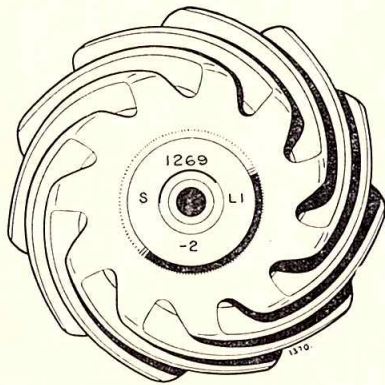
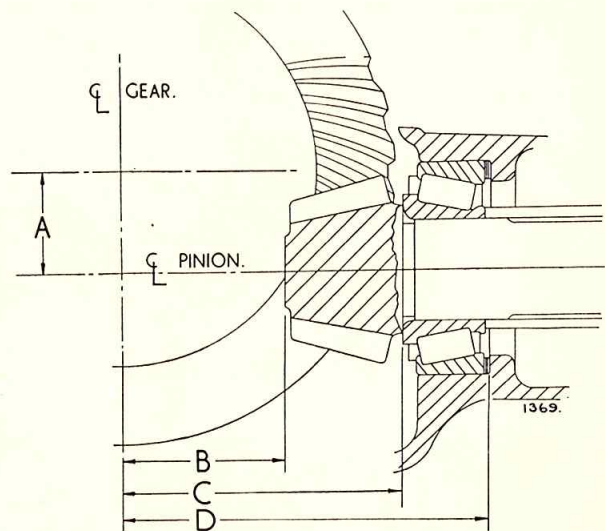

Fig. 14. Pinion setting marks.
Fig. 15. Pinion setting distances.
The correct pinion setting is marked on the ground end of the pinion as shown in Fig. 14. The matched assembly serial number at the top is also marked on the drive gear, and care should be taken to keep similarly marked gears and pinions in their matched sets, as each pair is lapped together before despatch to the factory. The letter on the left is a production code letter and has no significance relative to assembly or servicing of any axle. The letter and figure on the right refer to the tolerance on offset or pinion drop dimension "A" in Fig. 15 which is stamped on the cover facing of the gear carrier housing. When ordering spares, specify the offset required if the best performance is to be obtained. Thus, L.1 carrier requires L.1 gears or H.2 carrier requires H.2 gears.
The number at the bottom gives the cone setting distance of the pinion and may be Zero (0). Plus (+) or Minus (—). When correctly adjusted, a pinion marked Zero will be at the zero cone setting distance, dimension "B" in Fig. 15 from the centre line of the gear to the face on the small end of the pinion; a pinion marked Plus two (+2) should be adjusted to the nominal (or Zero) cone setting plus .002", and a pinion marked Minus two (—2) to the cone setting distance minus .002".
The zero cone setting distance, ("B" Fig. 15) for the various axles are given below.